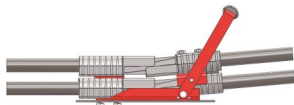

Figure 4
- Align the slots in the Battery Bracket to the Pins in the Truck / Charger Assembly as shown (see figure 4).